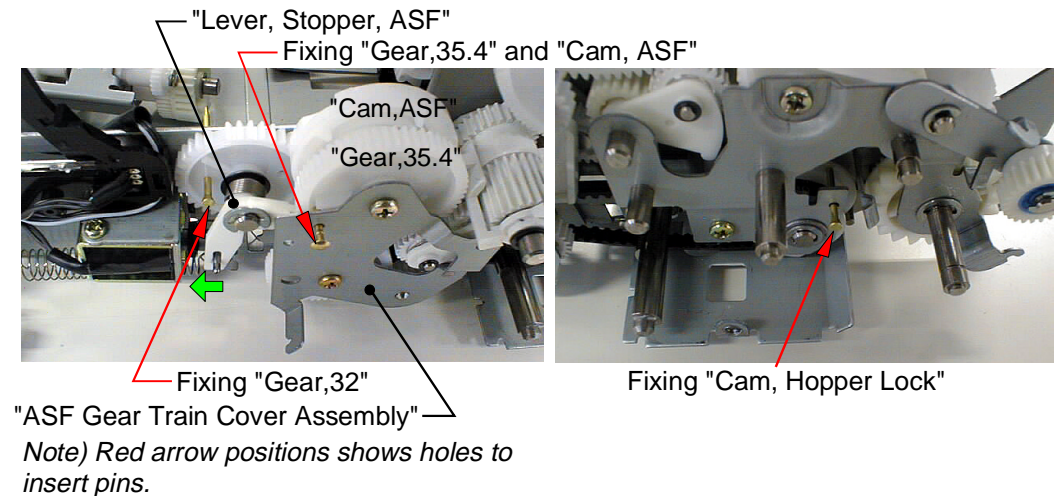

Figure 4-112. Before installing "ASF Unit"
32. Rotate "Gear,35.4" and "Cam, ASF" manually, then, insert 2 positioning pins for alignment into positions shown in left picture of Figure4-112.
When inserting a positioning pin into "Gear,35.4", push "Lever, Stopper, ASF" once toward green arrow direction shown in Figure4-112, and rotate only the "Gear, 35.4" to the right direction only one round, then, insert a pin after checking the hole of "ASF Gear Train Cover Assembly" and the hole of "Gear,35.4" are matched. If these holes do not match by only one rotation, rotate "Gear,35.4" one more round, then, those holes will be matched. Also, release the pushed "Lever, Stopper, ASF" as soon as you rotate "Gear 35.4" to right direction.